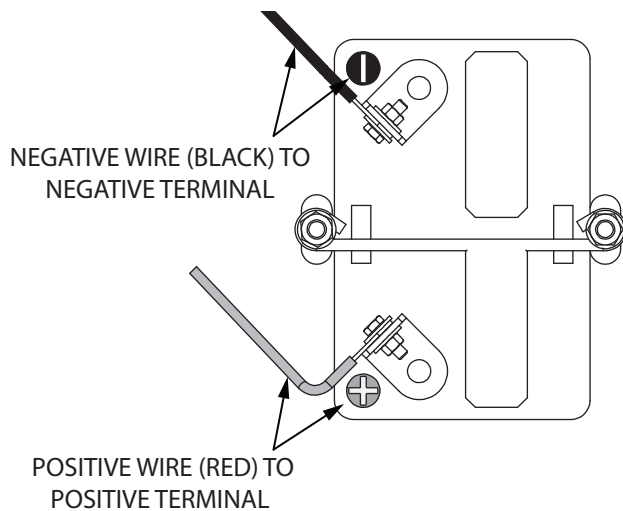

FIGURE 4: BATTERY WIRE ROUTING.
1. Make sure the battery is connected and grounded. **SEE FIGURE 4**